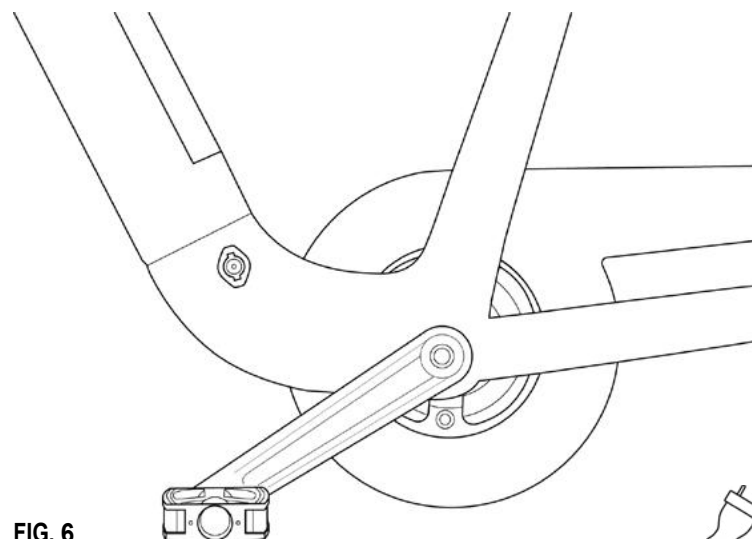

FIG. 6
1. Lift the rubber cap on the charging socket, located on the left side of the frame (FIG 6);